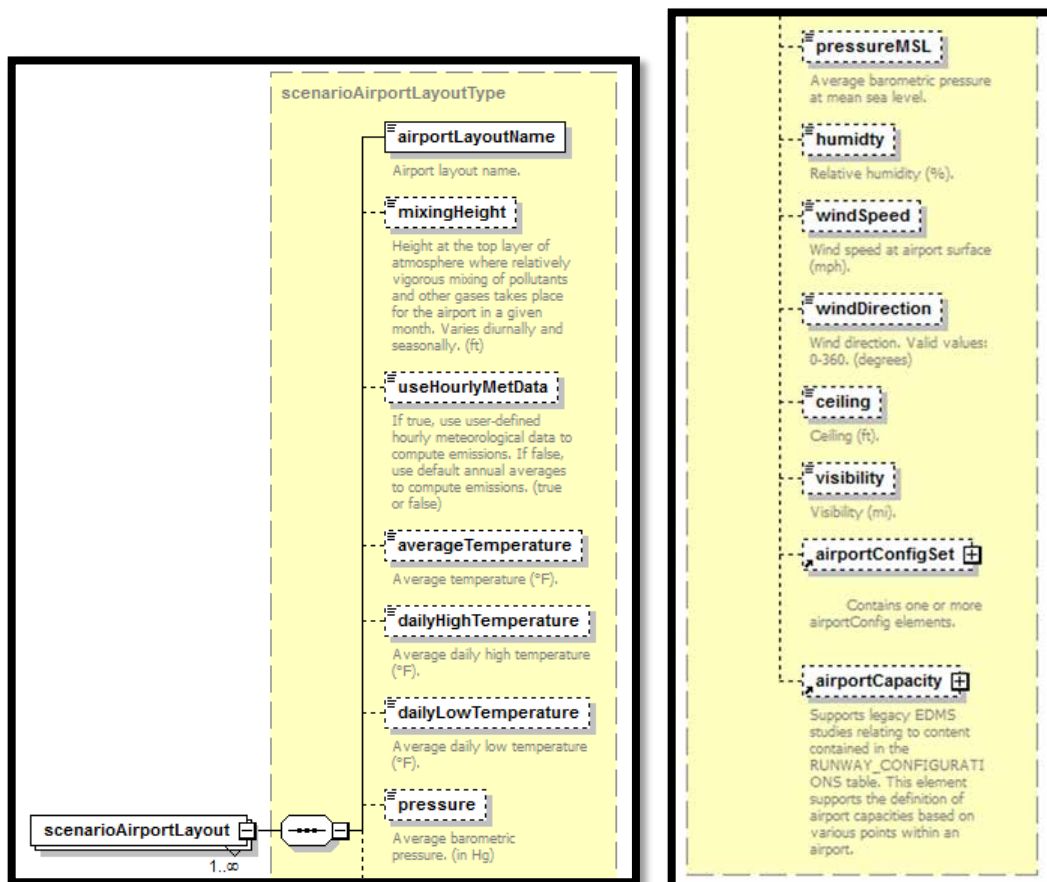

Figure 50. XML element `scenarioAirportLayoutType`
2. AsifXml/study/airportLayoutSet/airportLayoutType (Figure 50):
The `scenarioAirportLayoutType` is a subset of the `airportLayoutType` (see Figure 50).